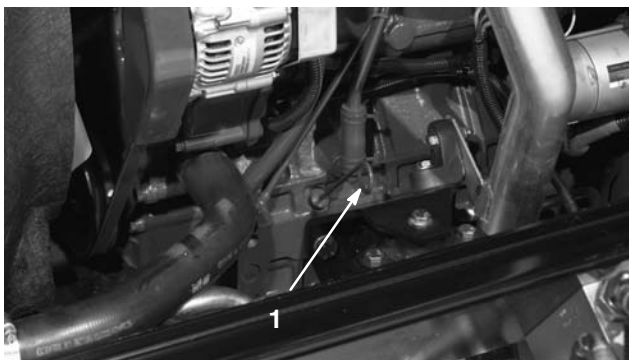

Figure 1
3. Remove the dipstick, wipe it clean, install the dipstick into the tube, and pull it out again. The oil level should be up to the FULL mark (Fig. 1).